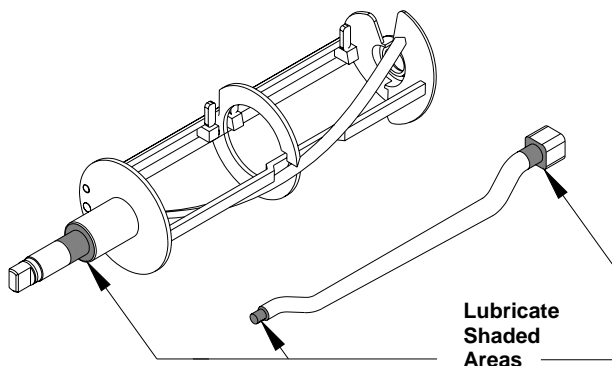

Fig. 12
- a. Apply a generous amount of lubricant to the shoulder of the dasher and the area of the shaft where the white plastic portion of the assembled rear seal contacts the shaft (Fig. 12). This is easily performed by running a 1/4" (6 mm) bead of lubricant around the shoulder of the dasher.
- b. Lubricate the two areas of the stator rod (Fig. 12) and slide the stator rod into the dasher. Make certain that the end of the stator rod is inserted into the hole at the rear of the dasher.